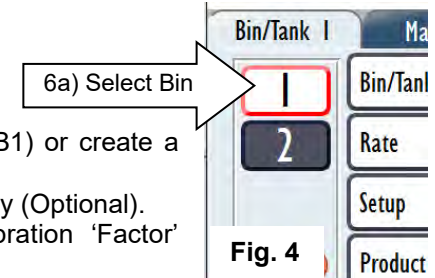

Fig. 4
6. Calibrate seeder meterbox's for product to be sown from the 'Setup Menu' (Refer Fig. 4,5 & 6) :-